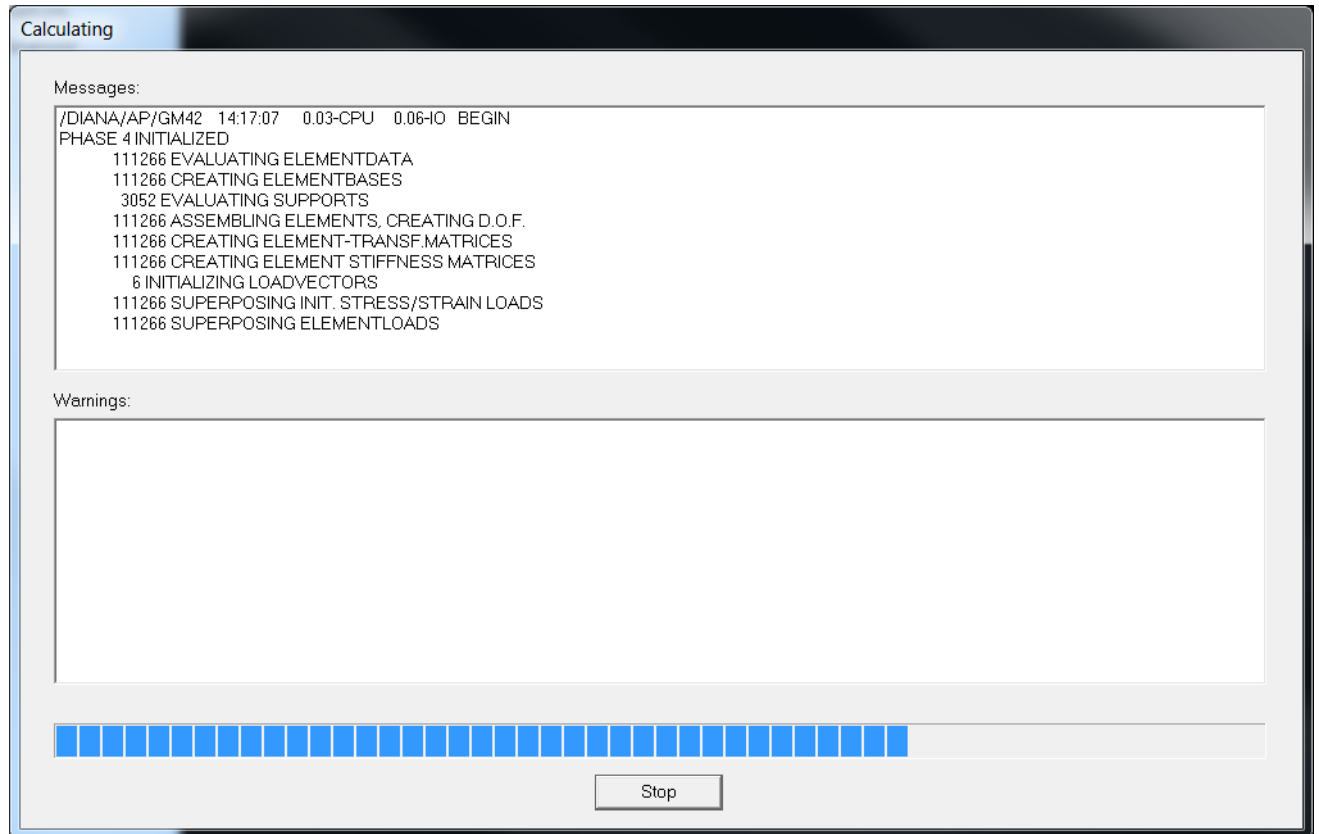

Figure 20 Executing a depletion step in Geomec
- b. Solving for the depletion states (Figure 20)